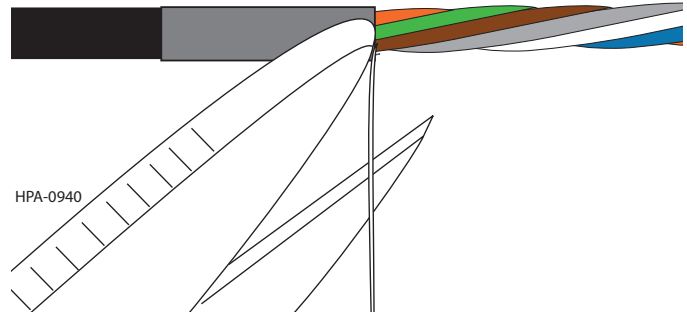

Figure 7
**Step 11:** Unravel the yarns down to the tape wrap and snip off the yarns (use care when cutting close to the buffer tubes due to the small buffer tube size) (Figure 7).